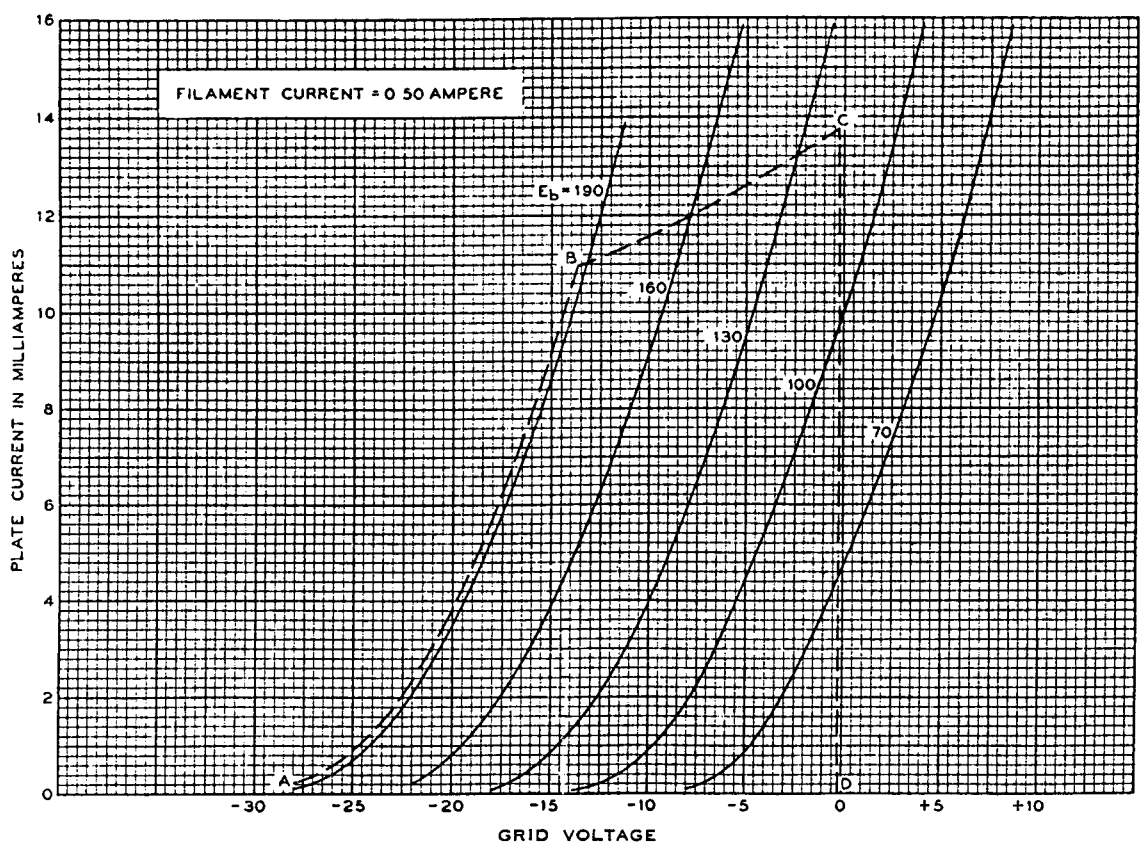
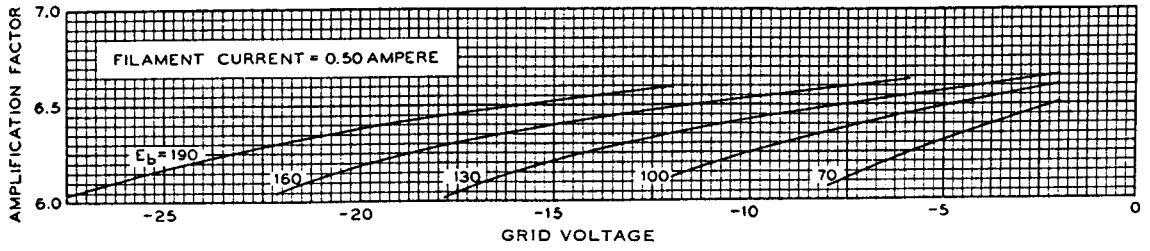
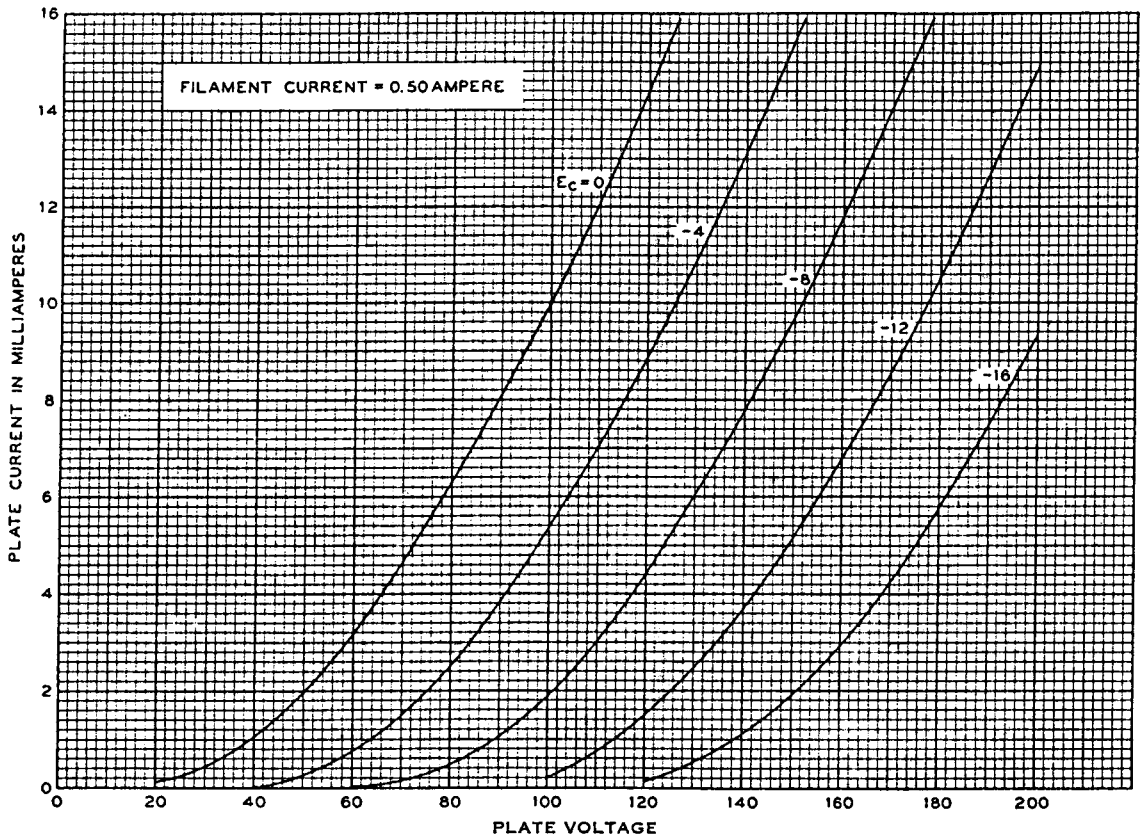

FIG. 3
FIG. 4
FIG. 7
**Characteristics**—Grid-plate characteristics of a typical 101F tube are shown in Figure 3 for several values of plate voltage. The grid and plate voltages are measured from the negative end of the filament. Corresponding amplification-factor, plate-resistance, and transconductance characteristics are shown in Figures 4, 5 and 6, respectively, as functions of grid voltage. Plate characteristics are given in Figure 7 for several values of grid bias.
**Operating Conditions and Output**—Permissible operating grid and plate voltages are included within the area, ABCD, in Figure 3. A number of recommended and maximum operating conditions, represented by selected points within this area, and the corresponding values of amplification factor and plate resistance are given in the table below. Recommended conditions or others of no greater severity should be selected in preference to maximum conditions wherever possible. The life of the tube at maximum operating conditions may be shorter than at the recommended conditions.